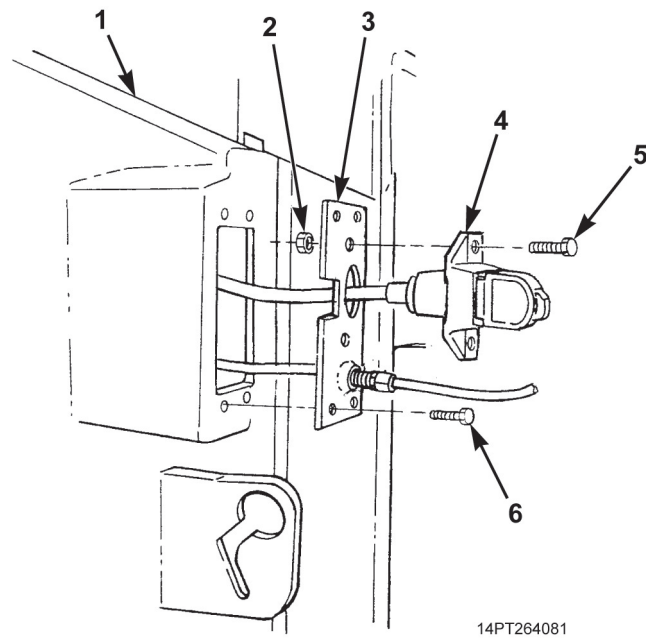

Figure 5. Cover Plate Installation.
3. Position truck-to-MCS tailgate wiring harness receptacle (Figure 5, Item 4) against cover plate (Figure 5, Item 3). Secure with two screws (Figure 5, Item 5) and nuts (Figure 5, Item 2).
4. Install cover plate (Figure 5, Item 3) on dump body pillar (Figure 5, Item 1) with four screws (Figure 5, Item 6).